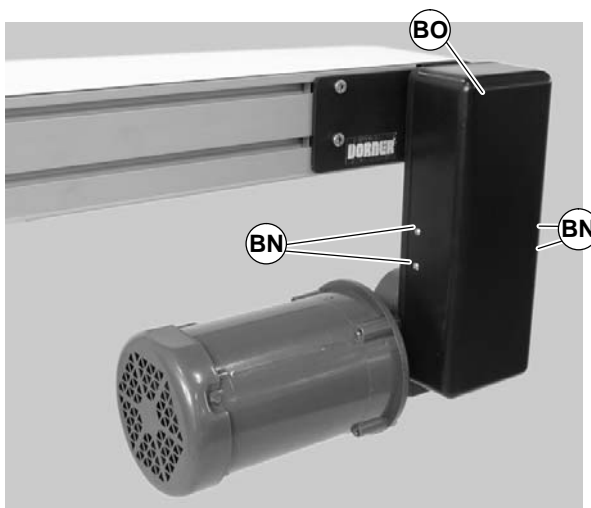

Figure 50
- 2) Remove four (4) screws (BN of Figure 50) and remove cover (BO).